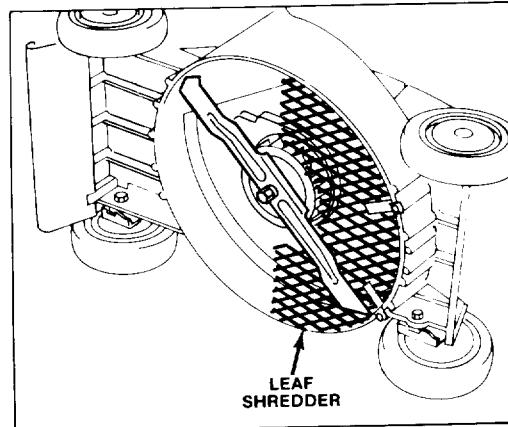

Figure 8
**SHRED LEAVES**—In fall, optional leaf shredder (Fig. 8) reduces leaves to a fraction of their original size while you bag. Minimizes emptying stops and number of trash bags used for disposal.